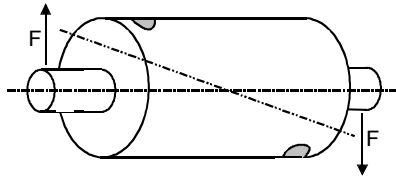

Figure 50: Couple balance
**Couple balance** occurs when the rotor axis and the mass axis are not congruent and when both axes intersect at the center of mass. The resulting force effect on the bearings is equal in amount but different in direction by  $180^\circ$  (Figure 50).